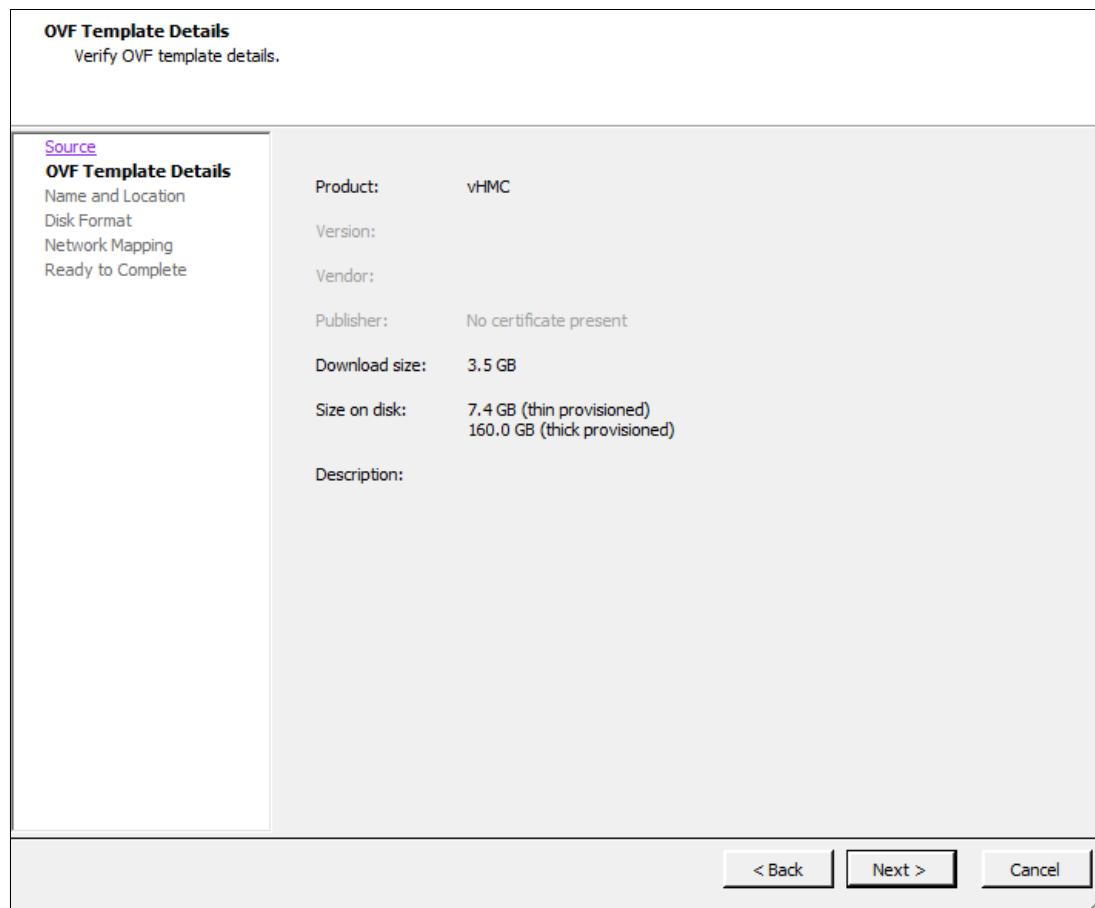

Figure 3-34 OVF Template Details
4. On the OVF Details panel (Figure 3-34), click **Next**.